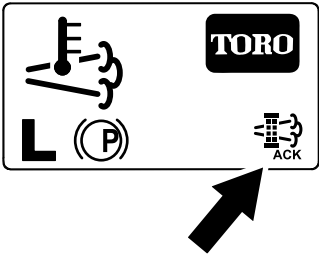

Figure 58
- The InfoCenter displays the home screen and the regeneration acknowledge icon (Figure 58) appears in the lower right corner of the screen as the regeneration processes.